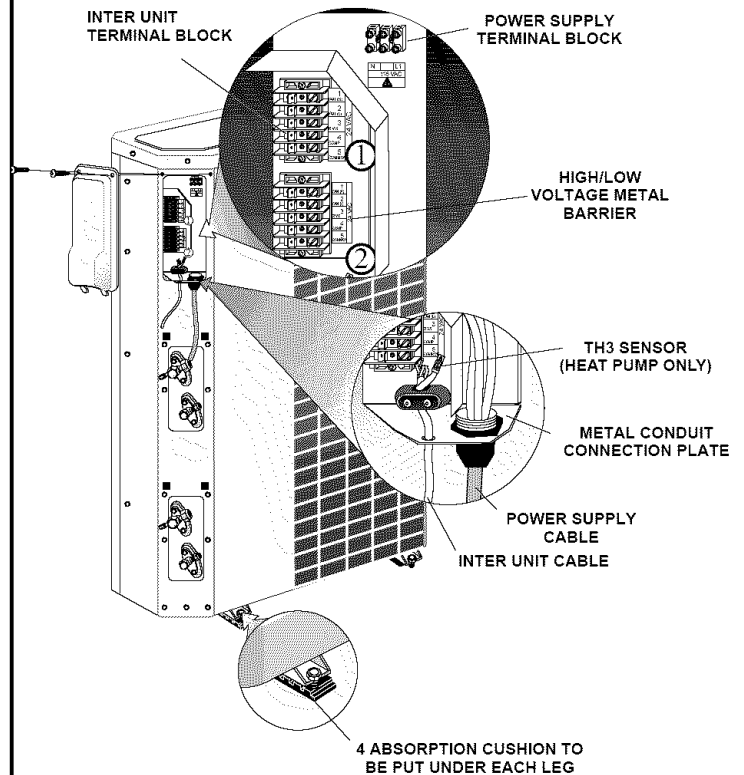

Fig. 12 — Legs Mounting Base and Wiring Outdoor Units Models: 38BCC/BCQ 018, 024
2. Fasten the outdoor unit legs to the mounting base, as shown in Fig. 12. The cushion goes between the legs and the mounting base.